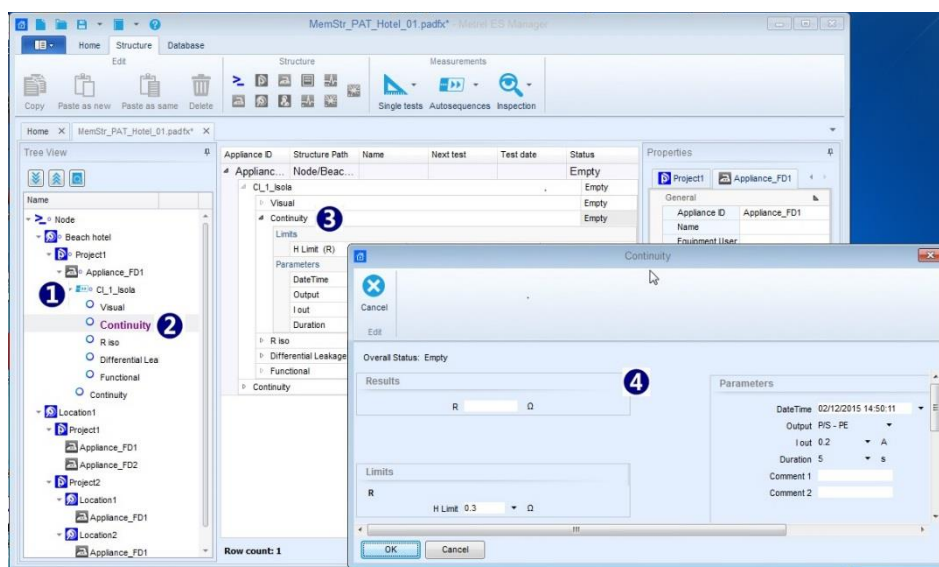

Figure 7.2: Edit Autosequence® test parameters and limits
- Parameters and limits can be reviewed and set again later; click on Single test name within Tree view present it content in Result view; double click on it name in Result view opens Single test setting window (4) on **Figure 7.2**.
- If necessary, parameters and limits of Autosequence® test can be reviewed and set later, **Figure 7.2**; expand Autosequence® test node in Tree view (1) to see it single test content.
- Select Single test in Tree view (2) to present it content in Result view area.
- Double click on Single test name in Result view (3) to open it settings window (4).